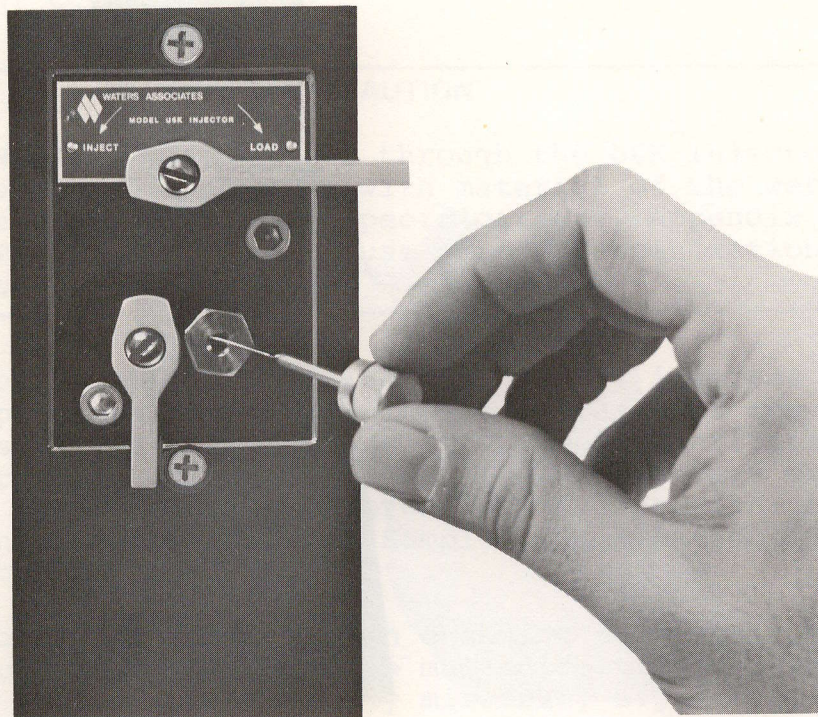

Figure 3-4. Removing U6K Sample Loading Plug
- Set LOAD/INJECT handle (Figure 3-4) to LOAD (right) position.
- Set Plug Retaining handle (Figure 3-4) to opened (vertical) position.
- c. Remove Sample Loading Plug (Figure 3-4). The hole in the LOAD/INJECT handle is provided as a convenient holder for the Sample Loading Plug during sample loading and prevents making an injection without the Sample Loading Plug in place.